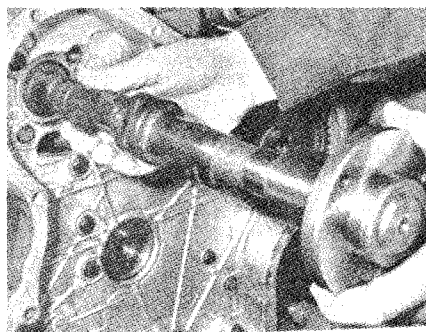

Fig. 70—The camshaft can be withdrawn as shown. The gear may remain installed.
71. To remove the camshaft, first remove timing gear cover as outlined in paragraph 64. Remove fuel tank, rocker arm cover and rocker arms and shaft assembly. Raise and secure cam followers in their uppermost position. Remove fuel lift pump, then withdraw camshaft as shown in Fig. 70.